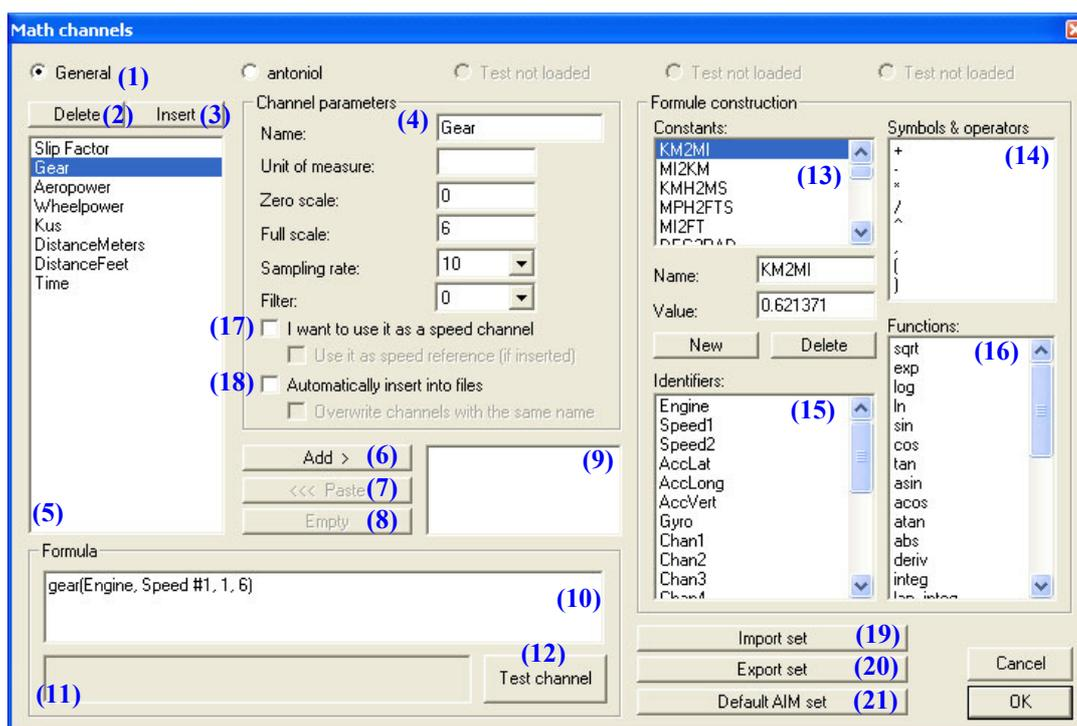

Fig. 8.1– Math channels window
The Math channel window is shown in Figure 8.1 and described below.
In the window's upper side it is shown 5 checkboxes (1): the "General" one is always enabled, while the other ones are enabled if the corresponding test has been loaded (in Figure 8.1 it has been loaded one test only). The selected checkbox will start blinking.